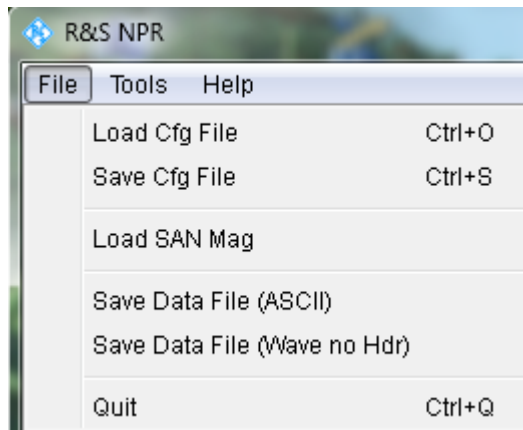

Fig. 6-25: File Menu
7. Turn ON the **COMPENSATE** checkbox and generate a 'real' NPR signal with notches (Fig. 6-25).